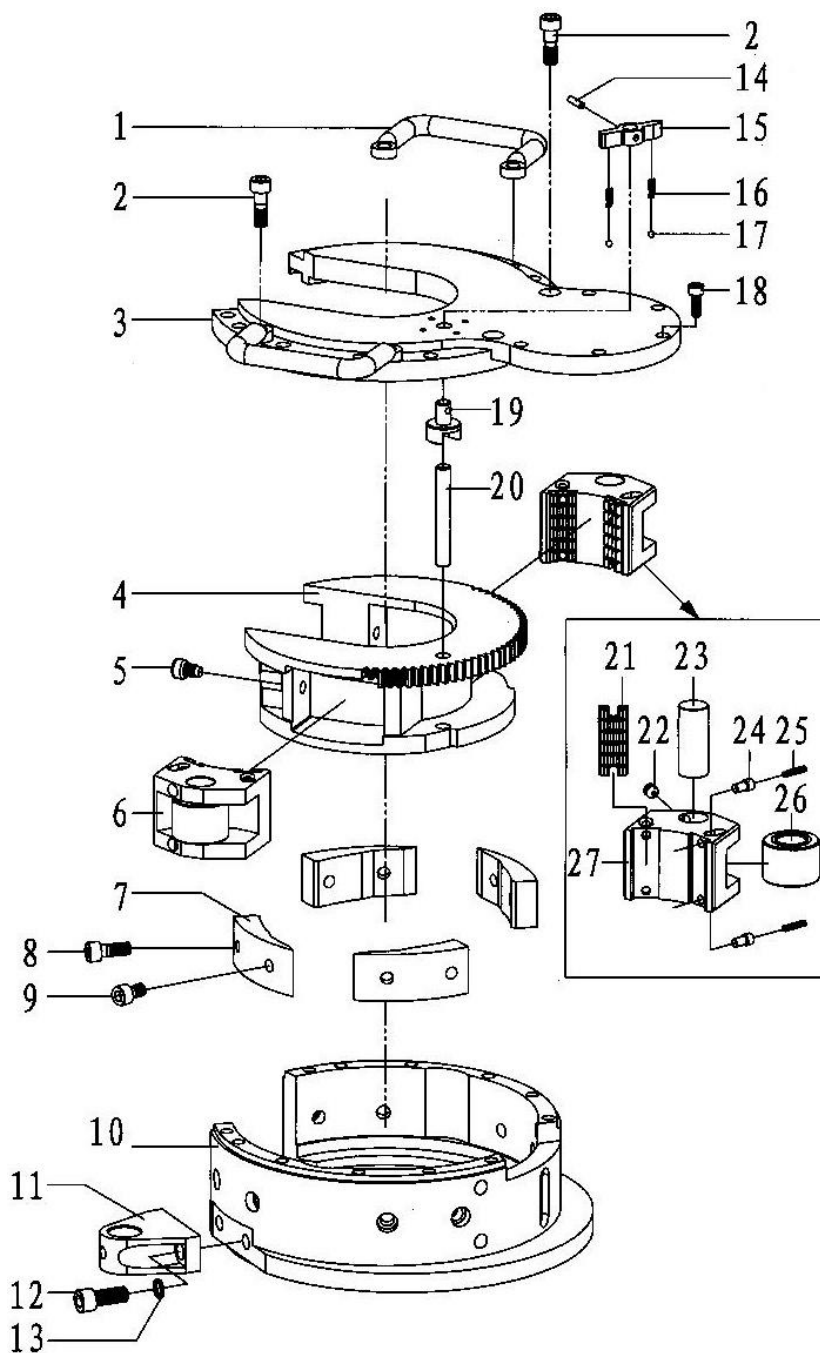

Fig.8-10
8.10 Backup tong head assembly and parts list(Fig.8-10,Table 8-10)